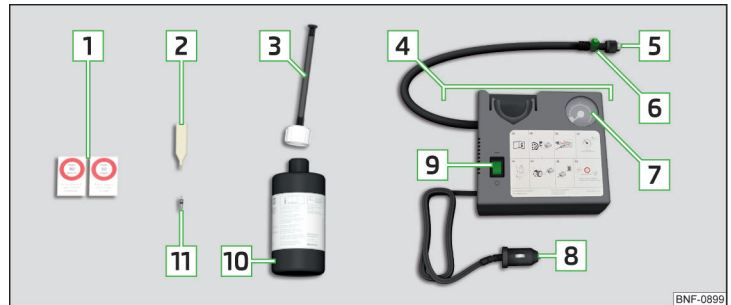

Fig. 337 Description of puncture repair kit
- › Insert the valve remover **2** » Fig. 337 on page 286 on the valve insert, so that the valve insert fits into the slot of the valve remover.
- › Screw the air compressor tyre inflation hose **5** » Fig. 337 on page 286 firmly onto the tyre valve.